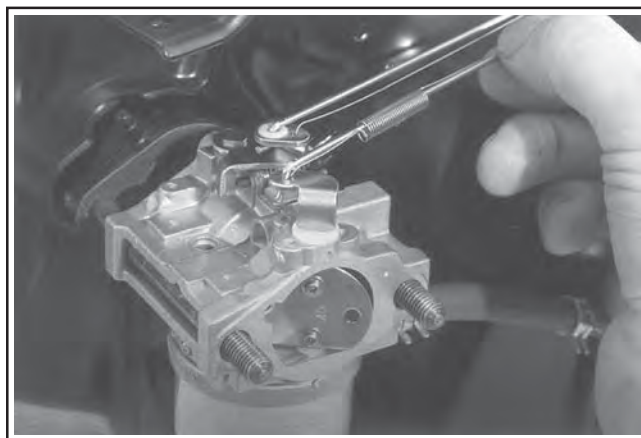

Figure 11-103. CS8.5-12. Attaching Choke Link and Dampening Spring.
3. CS8.5-12: Connect Z end of choke link and dampening spring to choke lever on blower housing or control bracket. Then connect the angled end of the link and spring into the holes of the choke lever on the carburetor as shown in Figure 11-103.